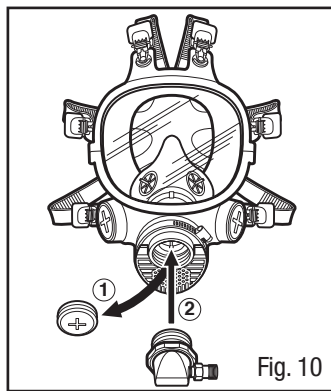

Fig. 10
1. Remove 3M™ Full Face Plug 7890 and screw in 3M™ Adapter W-3187 into center opening (Fig. 10).